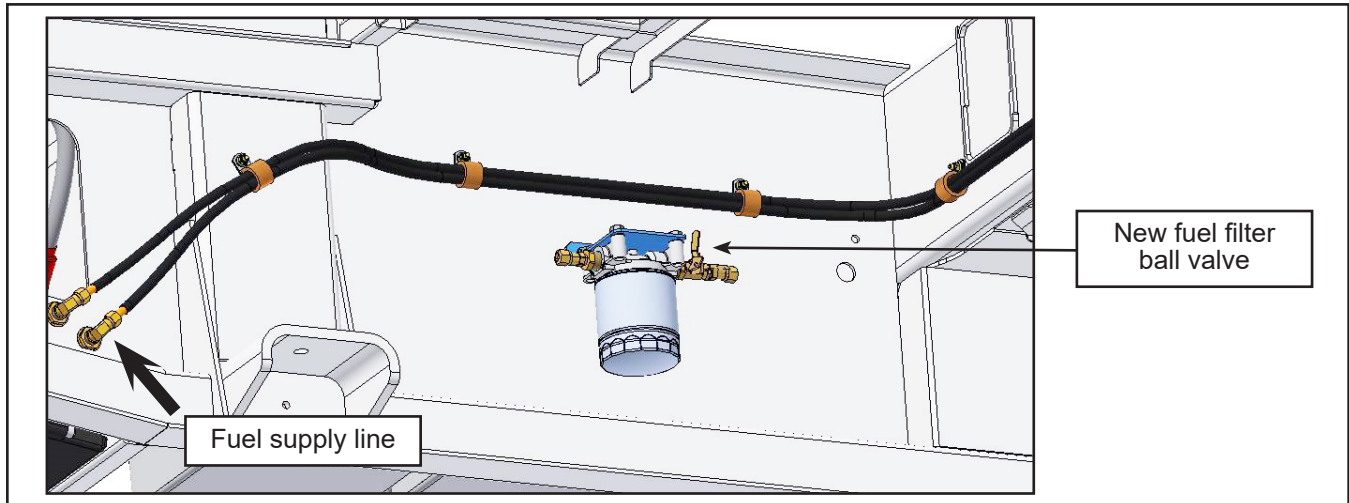

Figure 6 - Locate Fuel Supply Line and Close Ball Valve (Some Components Removed for Clarity)
- 1.11. Locate the fuel supply line (Figure 6). **Validate on your vehicle which one is the fuel supply line.**